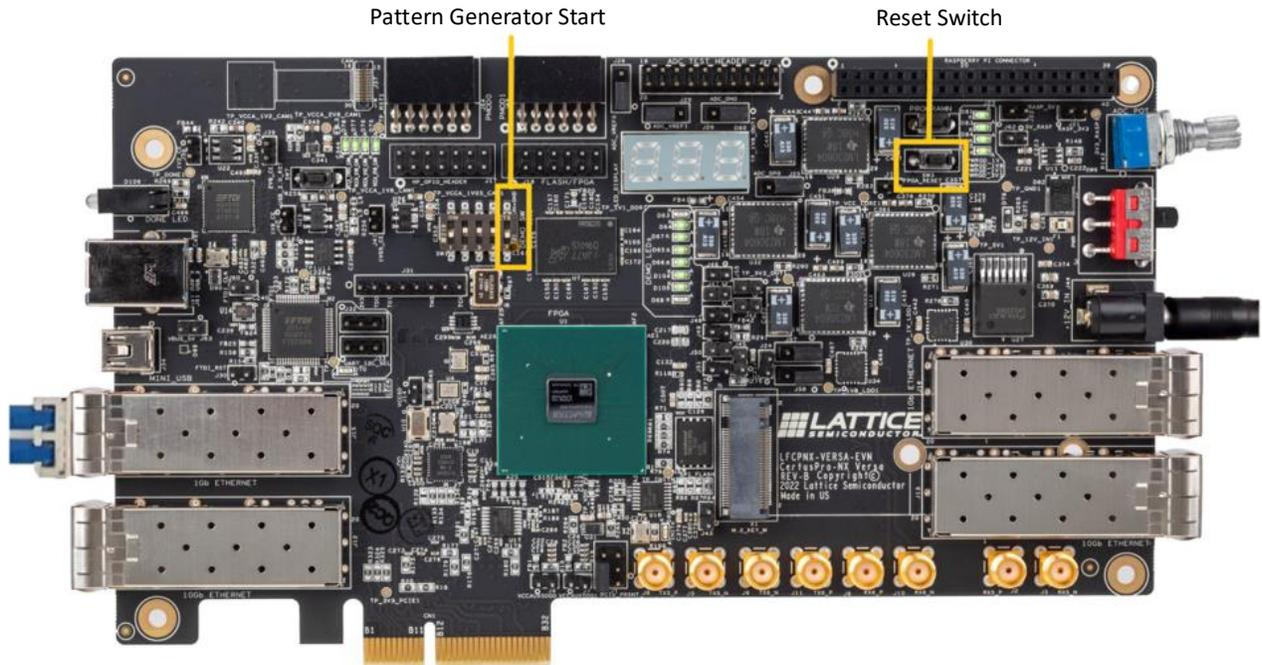
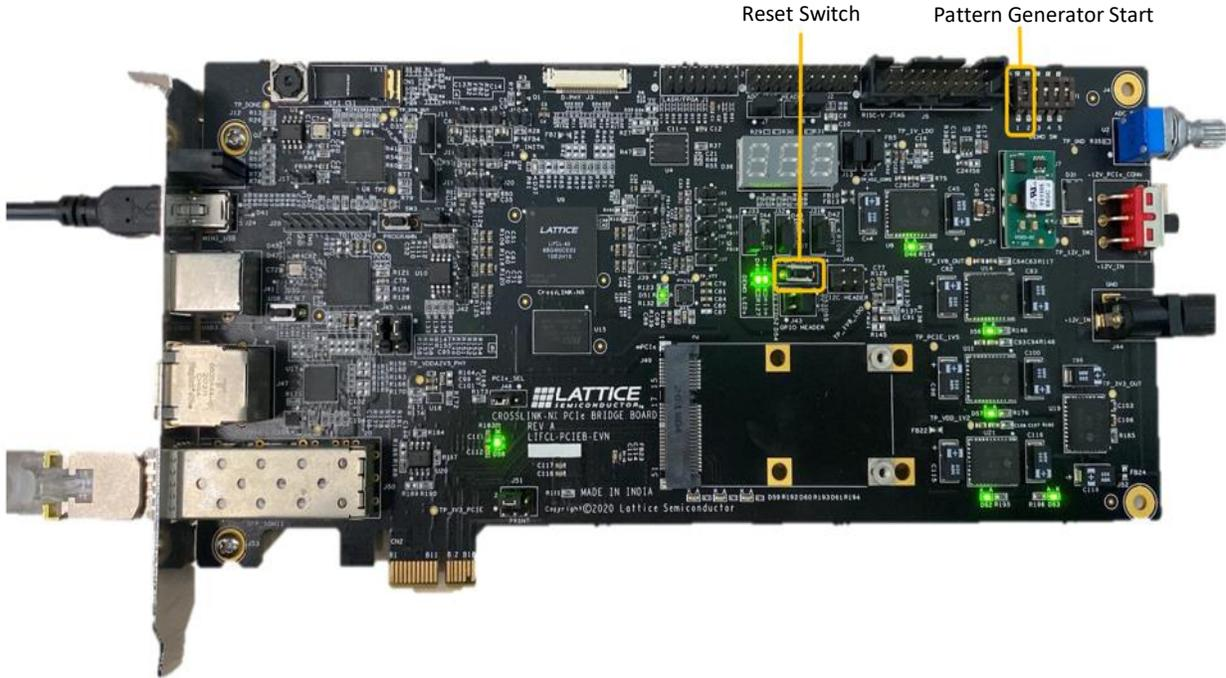
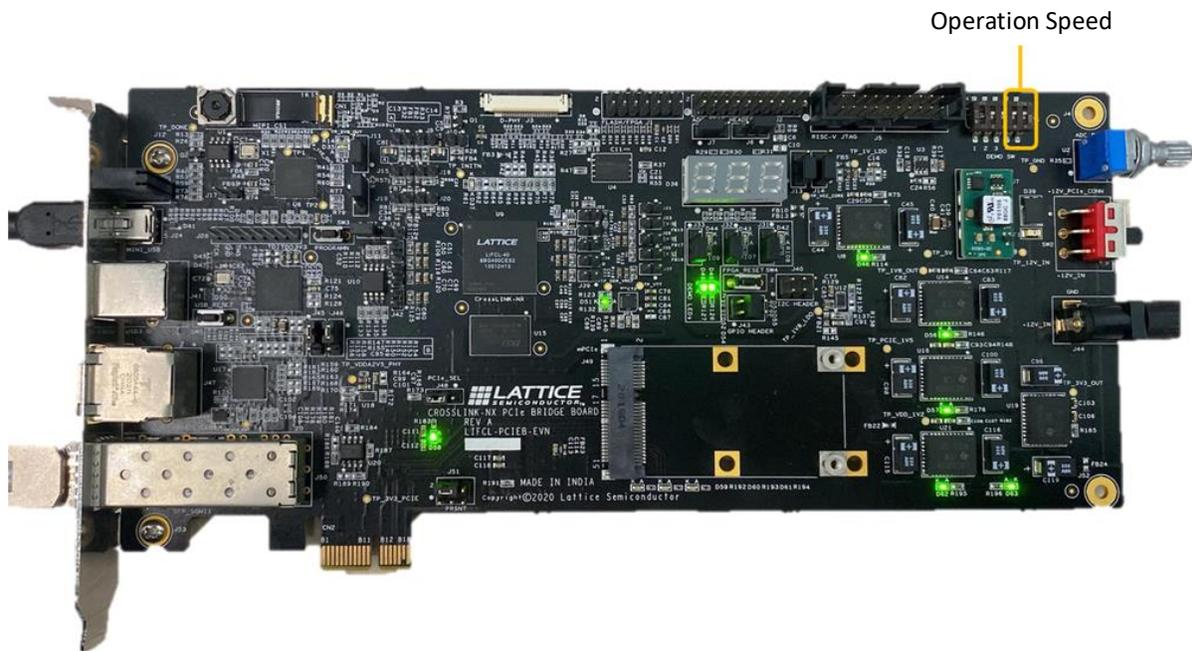

Figure 8.17. Toggle Switch 5 in SW1 to Initiate Pattern Generation for CertusPro-NX Versa Board
Figure 8.19. Toggle Switch 1 in SW1 to Initiate Pattern Generation for CrossLink-NX PCIe Bridge Board
Figure 8.20. Toggle Switch 4 and Switch 5 in SW1 to Change the Speed Operation for CrossLink-NX Versa Board
Note: These demo LEDs (excluding DP LED) are mapped to corresponding signals in the design file *top_module.v*. The LEDs are only meaningful after bit file programming. Toggle the DIP switch 1. Refer to Figure 8.19 to start the pattern generator.
- For the CertusPro-NX Versa Board, toggle switch 5 in SW1 to start the pattern generator (see Figure 8.17) and toggle switch 1 and 2 in SW1 to change the operational speed (see Figure 8.19).
- For the CrossLink-NX PCIe Bridge Board, toggle switch 1 in SW1 to start the pattern generator (see Figure 8.19), and toggle switch 4 and 5 in SW1 to change the operational speed (see Figure 8.20).